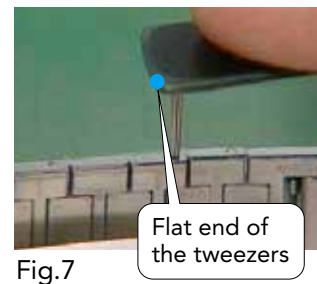

Fig.7
- 2) After the pin is inserted in the bracelet, use the flat end of the tweezers to push it into the bracelet. (Fig.7) Then use the other end of the tweezers to seat the pin in the bracelet. Be sure that the end of the pin is pushed slightly below the edge of the bracelet.